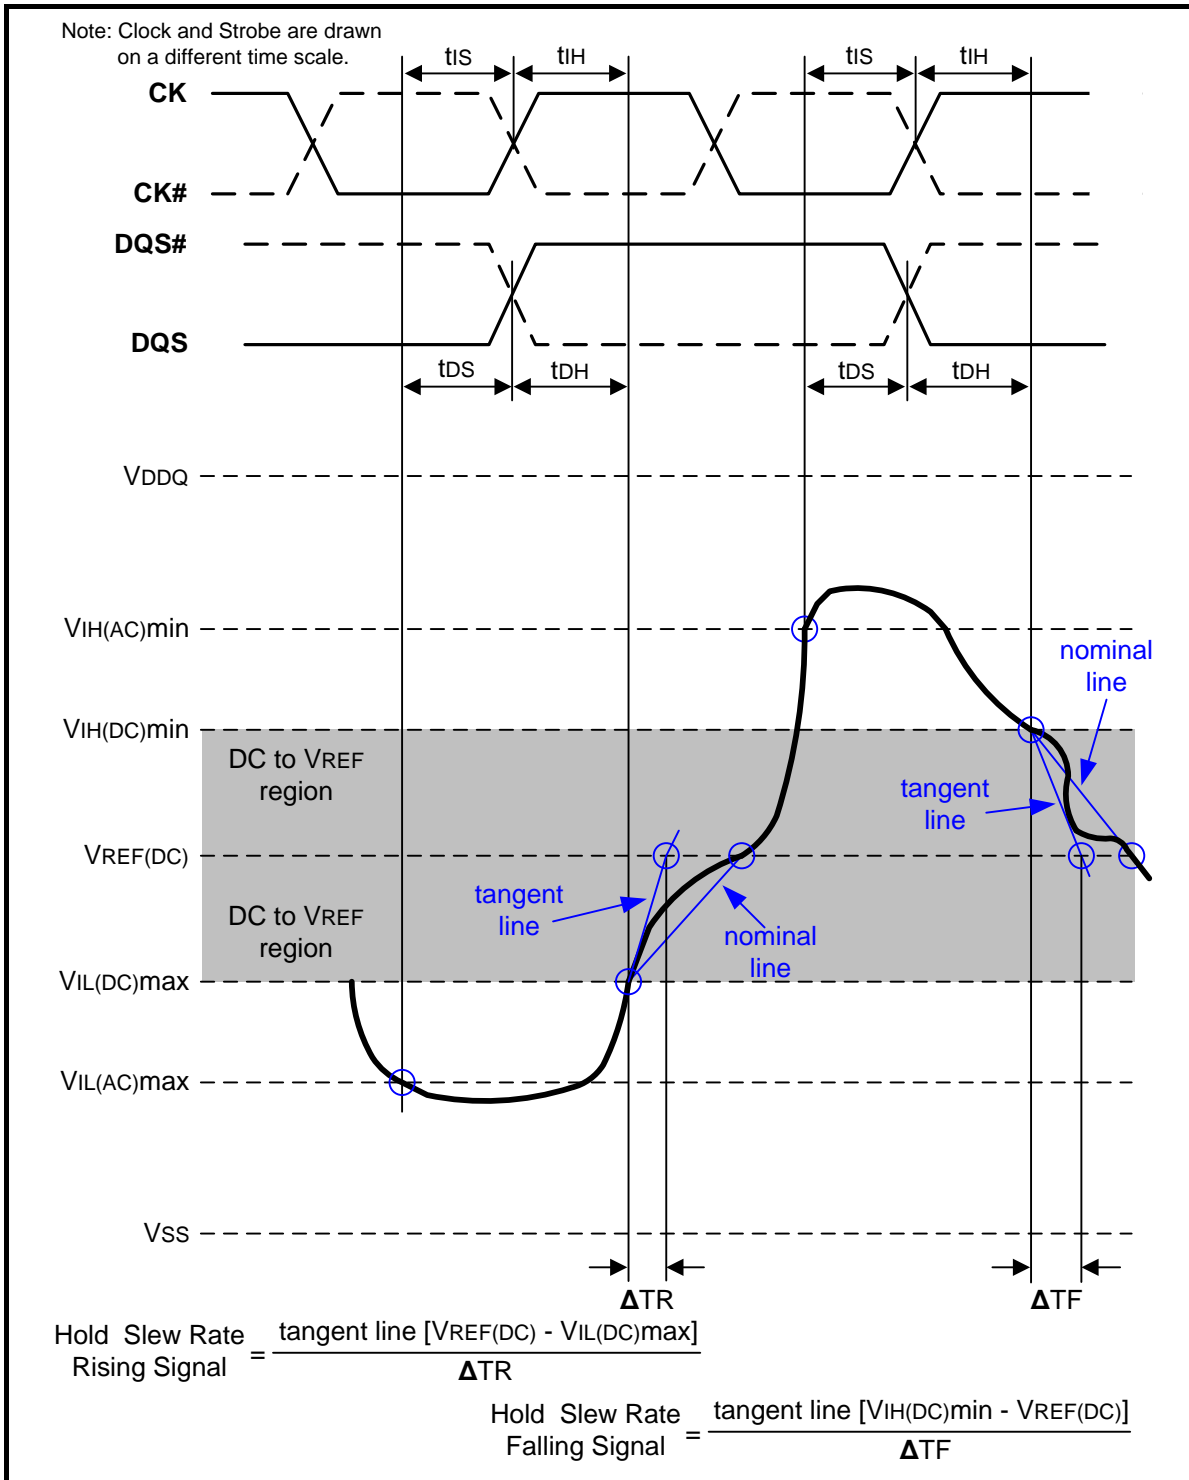

Figure 110 – Illustration of tangent line for for hold time tDH (for DQ with respect to strobe) and tIH (for ADD/CMD with respect to clock)
Hold (tDH) nominal slew rate for a rising signal is defined as the slew rate between the last crossing of VIL(DC)max and the first crossing of VREF(DC). Hold (tDH) nominal slew rate for a falling signal is defined as the slew rate between the last crossing of VIH(DC)min and the first crossing of VREF(DC) (see Figure 108). If the actual signal is always later than the nominal slew rate line between shaded 'DC level to VREF(DC) region', use nominal slew rate for derating value. If the actual signal is earlier than the nominal slew rate line anywhere between shaded 'DC to VREF(DC) region', the slew rate of a tangent line to the actual signal from the DC level to VREF(DC) level is used for derating value (see Figure 110).